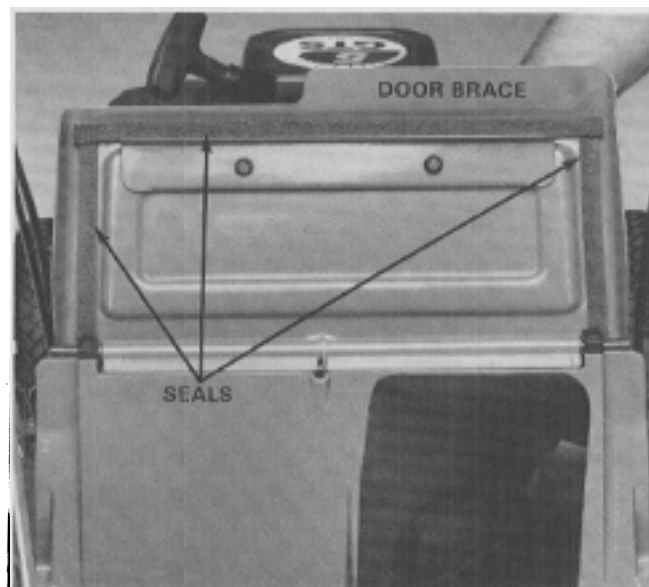

Figure 74
1. If necessary, install new seals along the side and bottom of the bag door. See Figure 74.